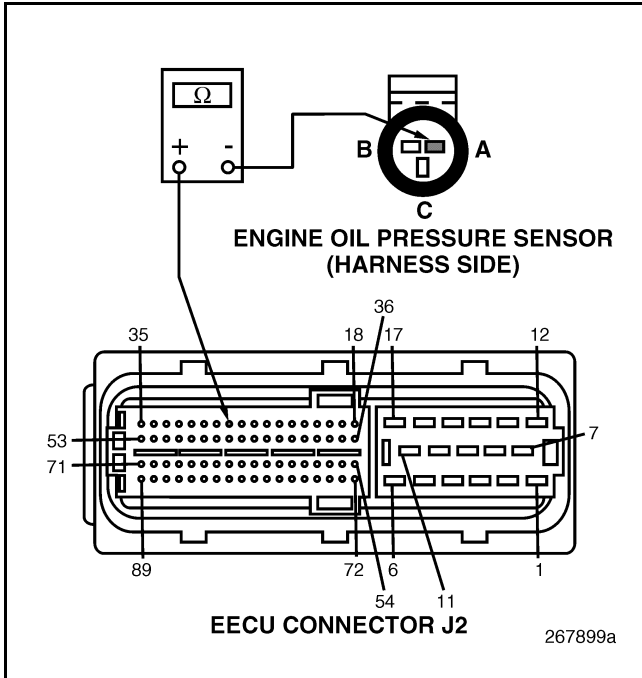

Figure 37
4. Check for continuity between EOP Sensor harness connector pin A (ground line) and EECU harness connector J2 pin 28 (see Figure 37).